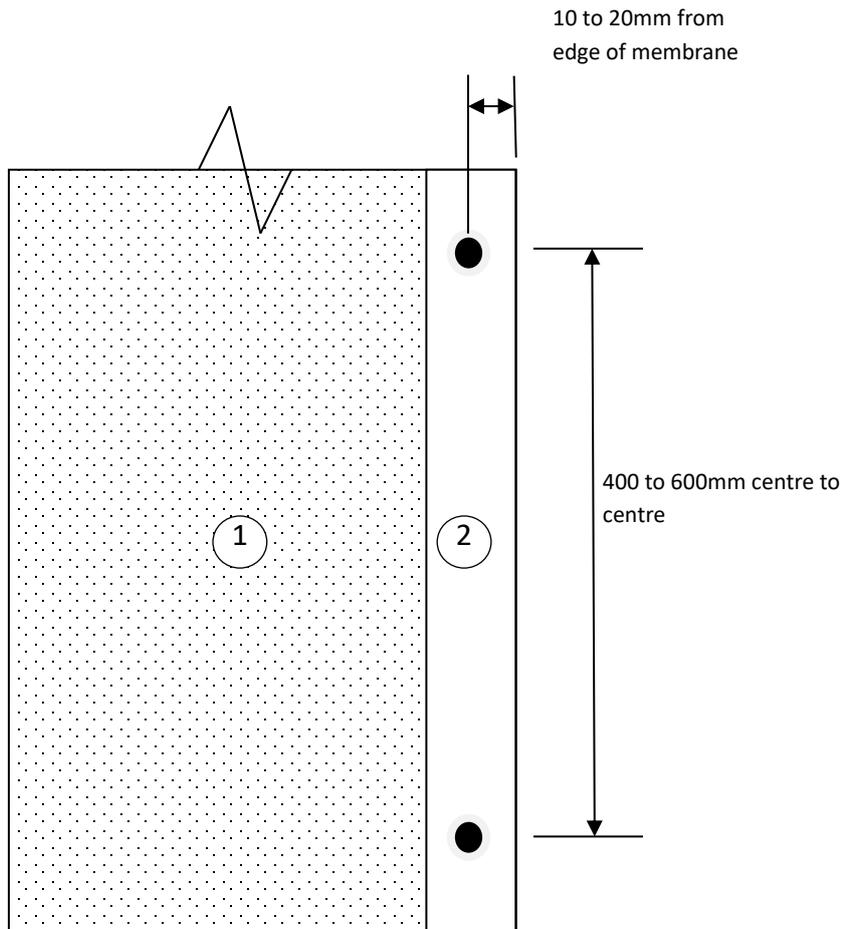

Fig. 6: Elevation, showing typical arrangement of mechanical fixings on Enviro BSM
- Mechanical fixings should be placed through the selvedge at the self-adhesive edge of the Enviro BSM membrane (see Fig. 6), with their position being: